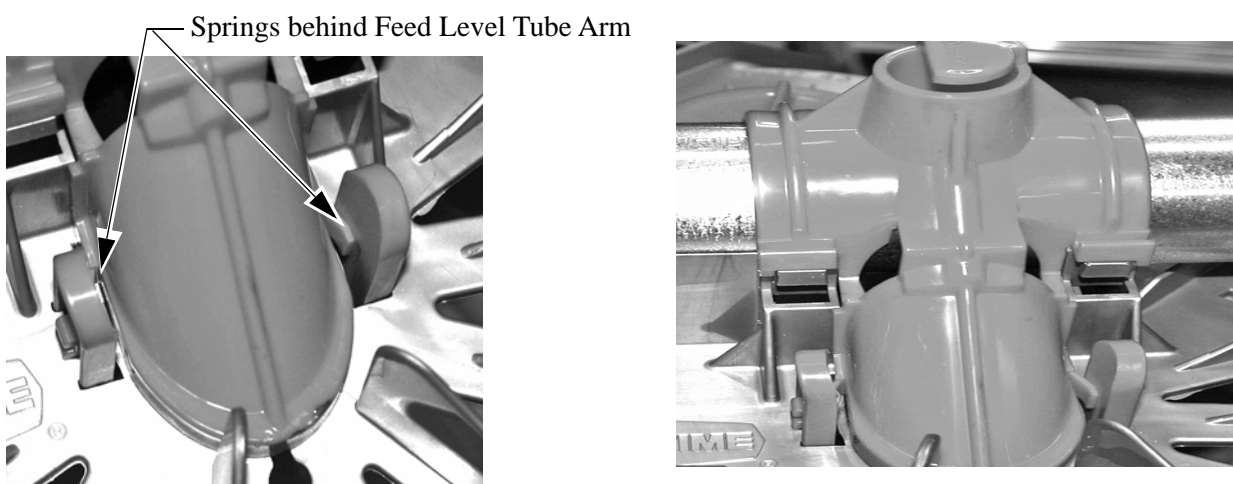

Figure 42. Installing Support Caps
6. Springs are behind Feed Level Cone Arms. **Figure 42. on page 28**